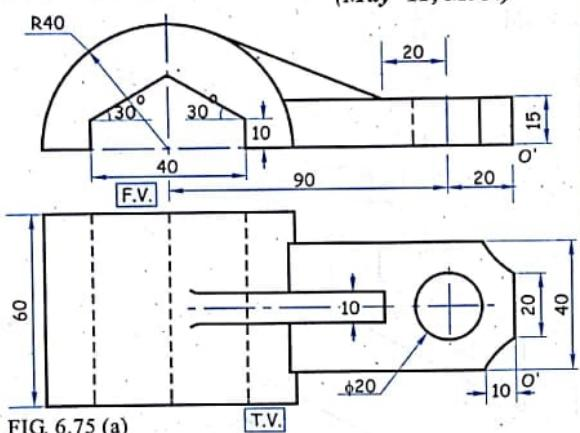

FIG. 6.75 (a)
**Solution :** Refer figure 6.75 (b).